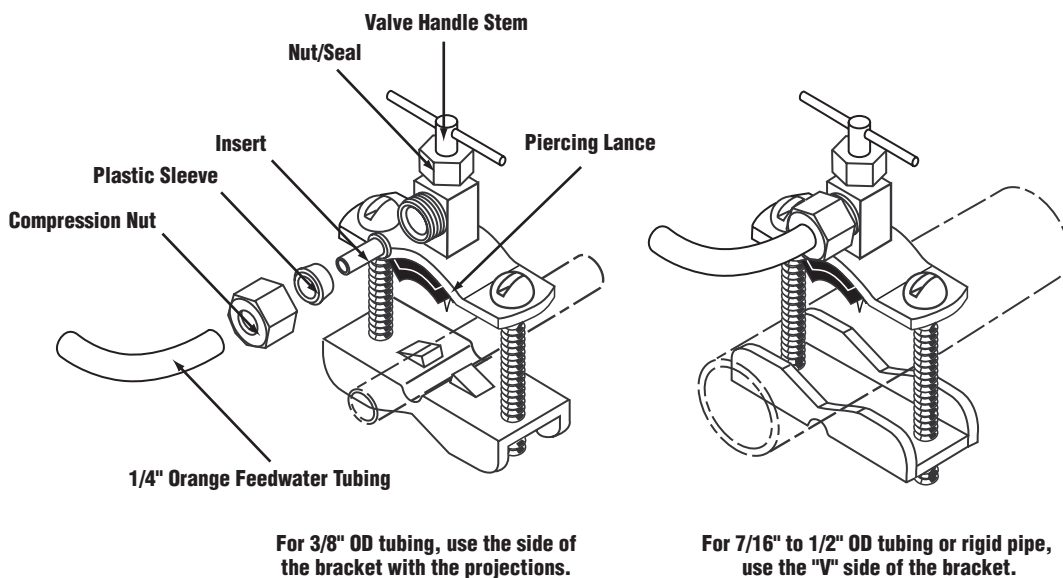

Fig. 3
- 2) Before installing the feed water tapping valve, make sure that the piercing lance does not protrude beyond the rubber gasket. (See Fig. 3)
- 4) For 3/8" OD tubing, use the side of the bracket with the projections to prevent distortion of the tubing. Use the "V" side of bracket for all larger size tubing. Tighten the screws evenly and firmly. The brackets should be parallel. Do not deform the tubing. (See Fig. 3)
- 7) Connect one end of the orange tubing to the feed water tapping valve using the brass compression nut, insert in plastic sleeve. (See Fig. 3)
- 3) Turn the feed water tapping valve handle clockwise to expose the piercing lance beyond the rubber gasket no more than 3/16". (See Fig. 3)
- 7) Connect one end of the orange tubing to the feed water tapping valve using the brass compression nut, insert, and plastic sleeve. (See Fig. 3)